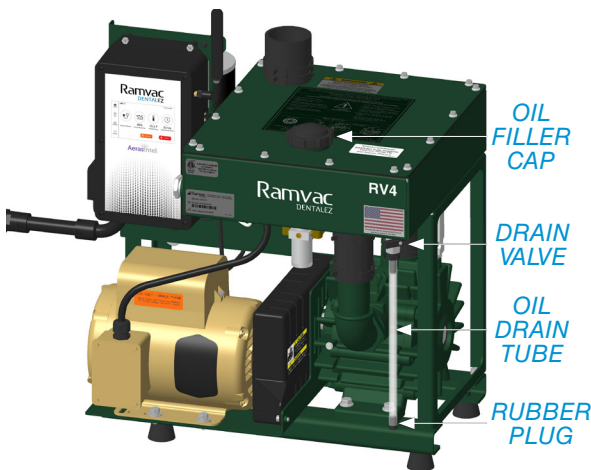

FIGURE 56. DRAIN USED OIL; ADD FRESH OIL
- Place an empty oil container (minimum six quarts) under oil drain tube (FIGURE 56).